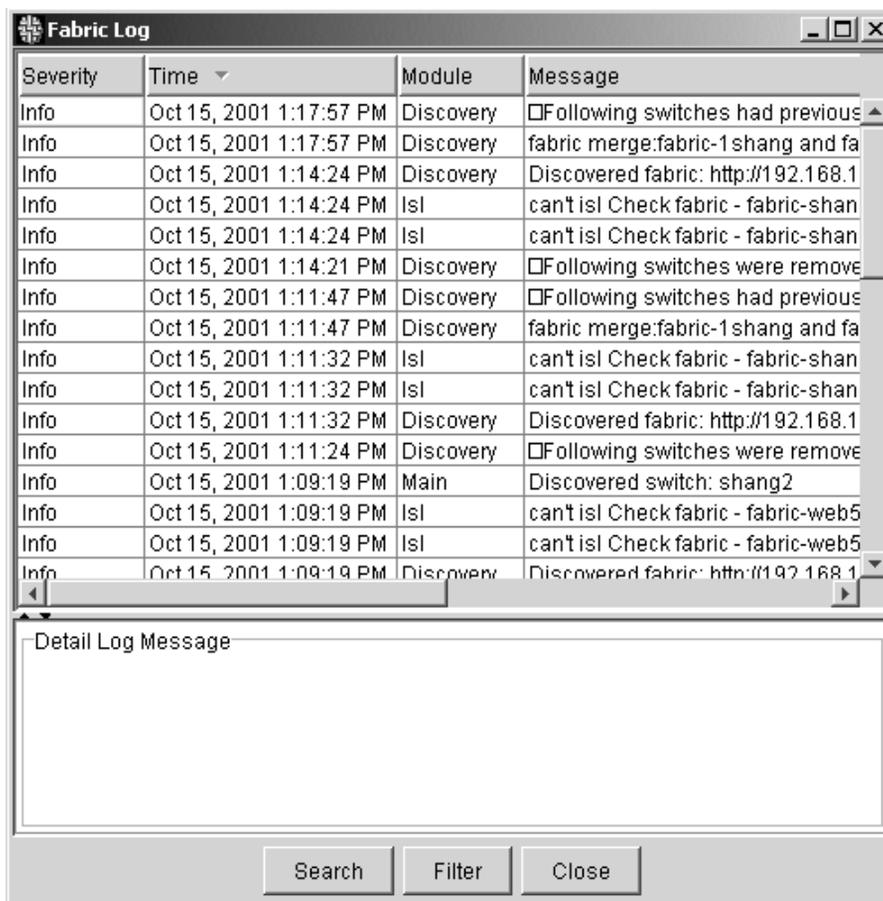

Figure 14: Fabric Manager Log dialog box
Choose **File > Fabric Manager Log** to view the Fabric Manager Log. The **Fabric Manager Log** displays, as shown in Figure 14.
1. Choose **File > Fabric Manager Log**. The **Fabric Manager Log** dialog box displays, as shown in Figure 14.